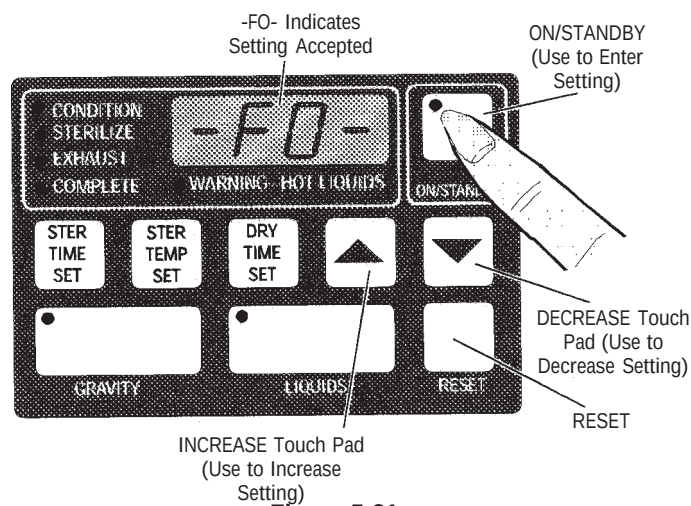

Figure 5-21
#### 5.1.4.6 Verifying and Setting Control Parameters, STERIS Tabletop Steam Sterilizer (Plus Series) (Figure 5-21)
2. Press and hold the RESET touch pad (Figure 5-21) until -F1- appears on the front panel and the buzzer sounds.
1. Press and hold RESET touch pad (Figure 5-21) until -F1- appears on the front panel display and the buzzer sounds.
2. Press RESET touch pad repeatedly (Figure 5-21) until -F2- appears on the front panel display and the buzzer sounds.
1. Press and hold RESET touch pad (Figure 5-21) until -F1- appears on the front panel display and the tone sounds.